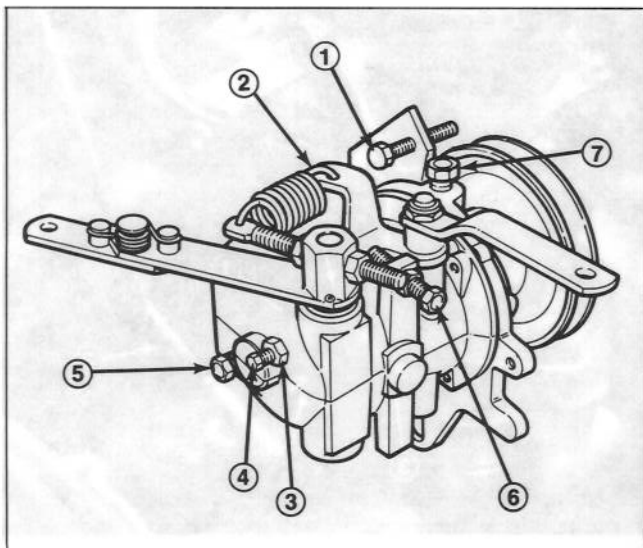

Figure 41
- 5. Release throttle arm, loosen jam nut on governor low idle stop screw and adjust it to attain 1500 ± 100 rpm. Tighten jam nut (Fig. 41).
- 6. Slowly move throttle to FAST position until engine speed reaches 3200 ± 100 rpm. Shut off engine. Adjust high idle stop screw until it contacts speed control lever (Fig. 41).
- 8. Check V-belts from engine to governor pulley and assure they are tight. If belts are loose, the engine will surge. If belts are tensioned properly, loosen jam nut that retains the anti-surge screw (Fig. 41). Rotate screw clockwise 1/8 turn at a time until surging stops. Should governor continue to surge, check the following:
2. Disengage hood latch and open the hood. Remove check plug (Fig. 41). Level of oil must be up to bottom of filler hole. If level of oil is low, remove oil fill